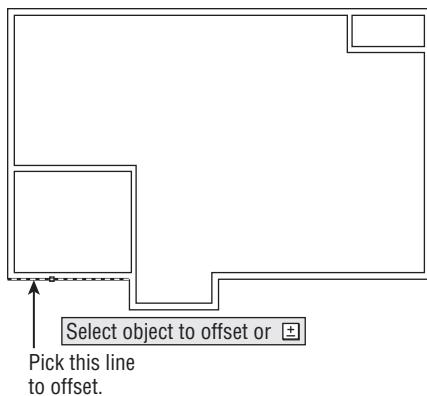

FIGURE 4.31 Selecting the line to offset
3. Click the lower outside line indicated in Figure 4.31, and then click in a blank area above the line you selected. You have to offset one line at a time because of the way the OFFSET command works.